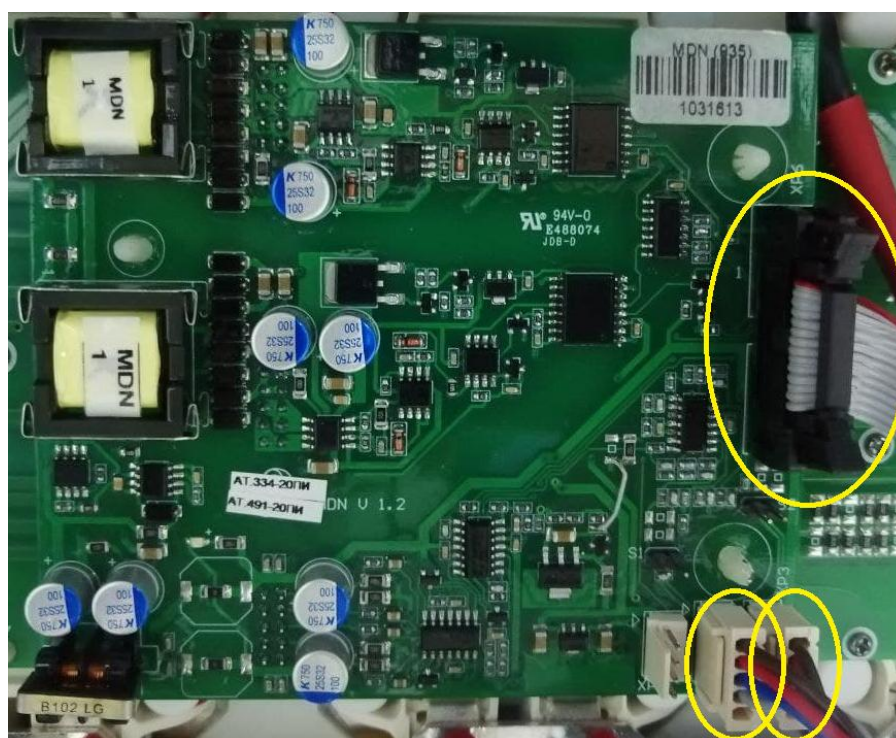

Figure 9 – Unplug connectors of a MDN unit
2. Unplug signal connectors (yellow) from a terminal blocks which is shown at figure 9 and unscrew circuits from a terminal blocks (yellow) using flat screw driver.